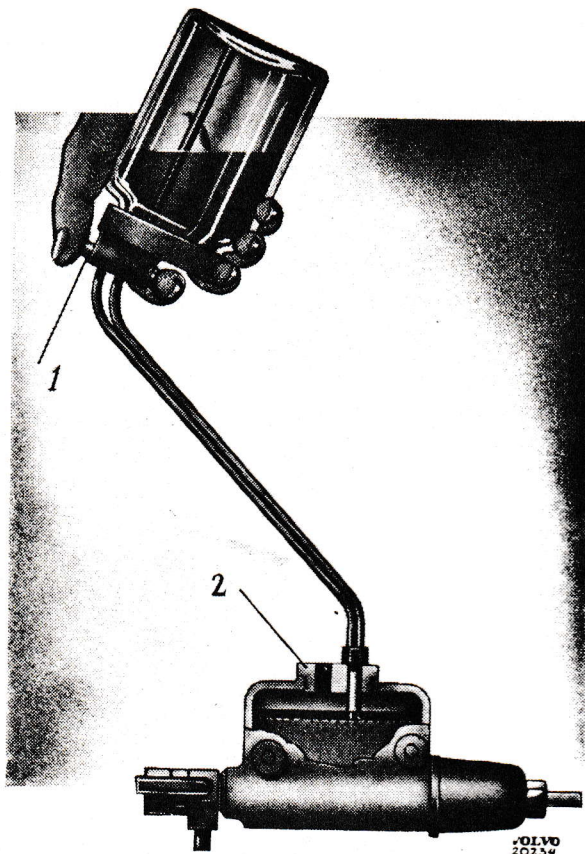

Fig. 29. Filling brake fluid (early prod.).
2. Remove the master cylinder cover with key SVO 2384, or screw off the brake fluid container cap. If necessary, fill up with high quality brake fluid which fulfils the requirements of SAE 70 R 3. On early type master cylinders it is best to use a special filling flask as shown in Fig. 29. When doing this, screw the plug (2) in place of the cover. Push the pipe down through one of the holes in the plug and open the tap (1). The flask will then maintain the fluid at a constant level during the bleeding process.